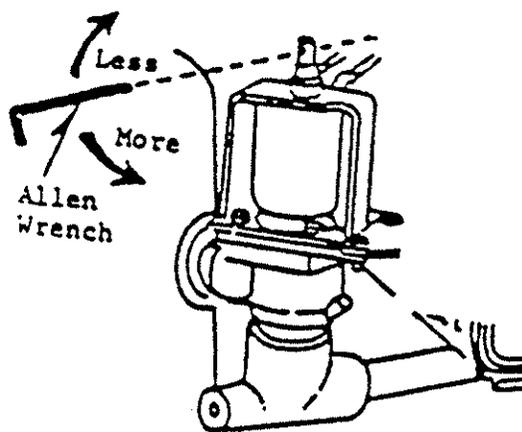

Fig. 3
1. **RATIO CONTROL - POWDER TO WATER** The ratio is controlled by the water adjustment screw located on top of the solenoid valve behind the left hand upper panel (see Fig. 3).